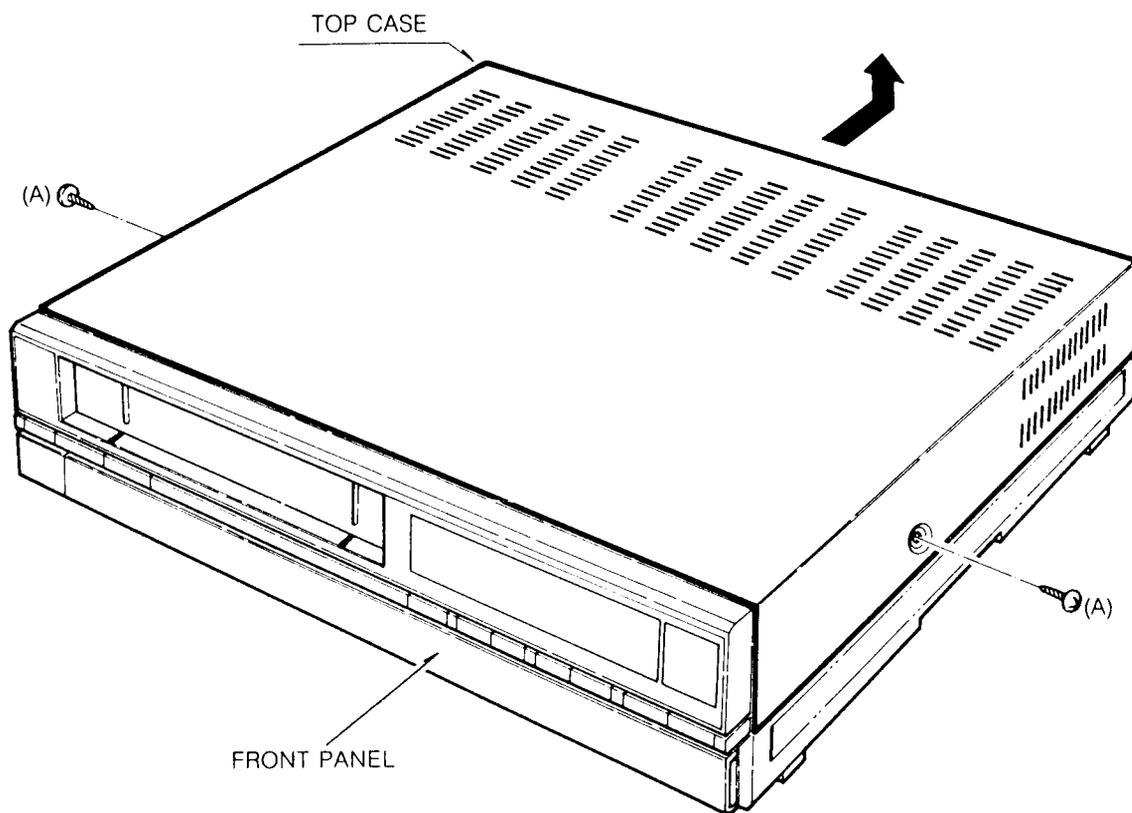

Fig. 2-1-1
2-1-1 Top Case (Fig. 2-1-1).
- A. Remove two screws (A). (See Fig 2-1-1)
- A. Remove the Top Case. (See Fig. 2-1-1)